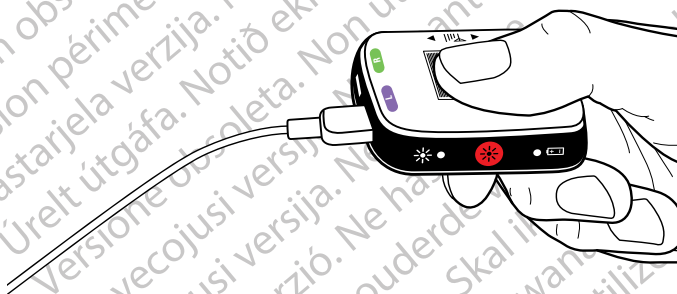

Figure 11. Connecting the OR Cable to ETS 3
2. Connect the proximal end of the OR Cable Extension to the ETS 3 Port labeled “L” while keeping the distal end of the OR cable within the sterile field (Figure 11).